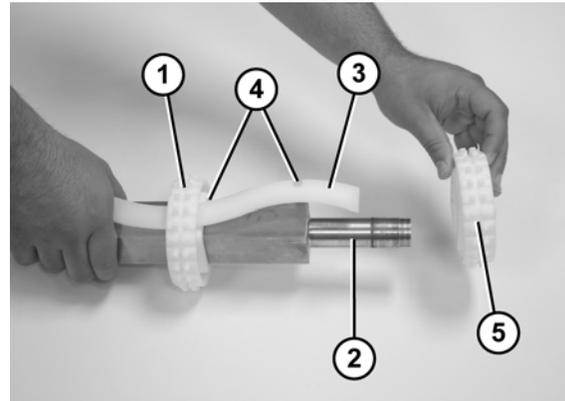

Figure 73
1. Slide the first sprocket (Figure 73, item 1) onto the drive spindle (Figure 73, item 2).
2. Insert the sprocket alignment bar (Figure 73, item 3) into the first sprocket and align the sprocket with the notch (Figure 73, item 4) in the sprocket alignment bar.
3. Slide the remaining sprockets (Figure 73, item 5) onto drive spindle and align each sprocket with the notches (Figure 73, item 4) in the sprocket alignment bar.